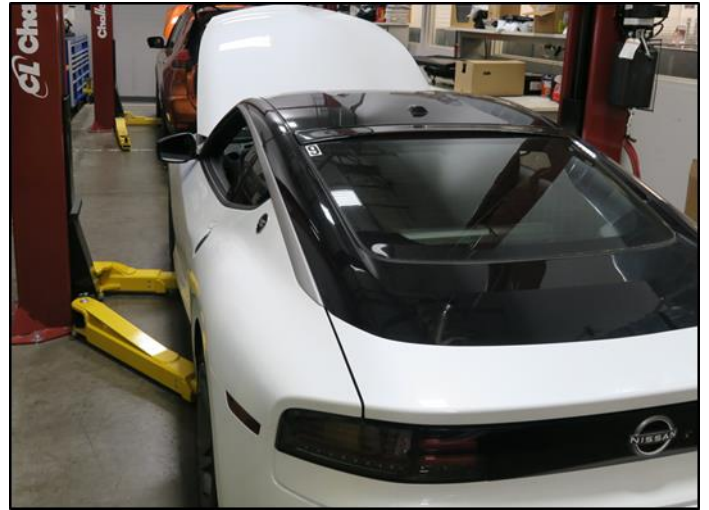

Figure 6
4. Position the vehicle in a stall with a vehicle lift and set the lift arms. (Figure 6)